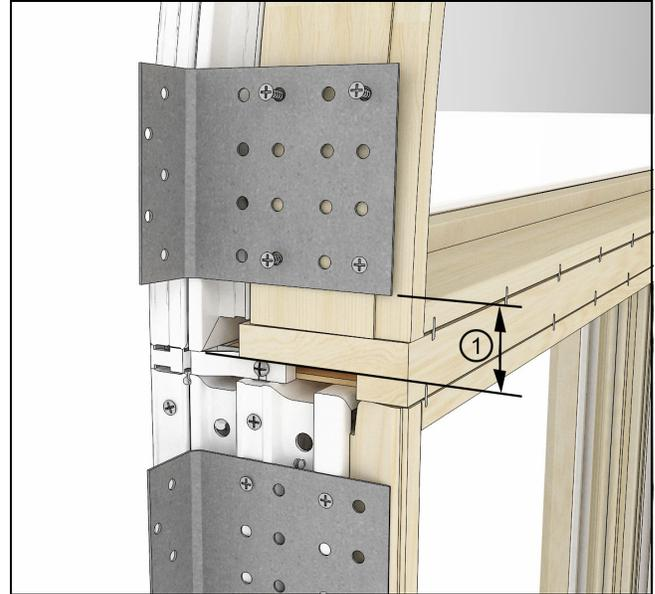

Figure 9
2. At the round top, place a mull clip at each mull point starting 1 1/2" from the mullion. Attach these with eight #7 x 5/8" Phillips flat head screws. See Figure 9.